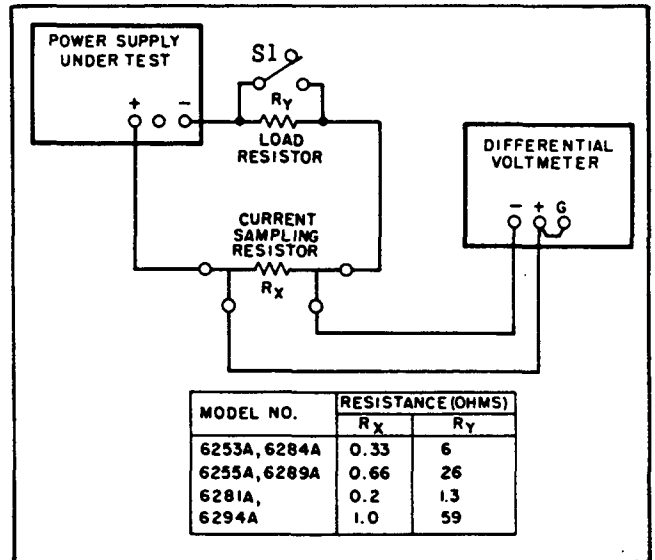

Figure 5-4. Output Current Test Setup
- Connect test setup as shown in Figure 5-4 leaving switch S1 open.
a. Connect test setup as shown in Figure 5-4.